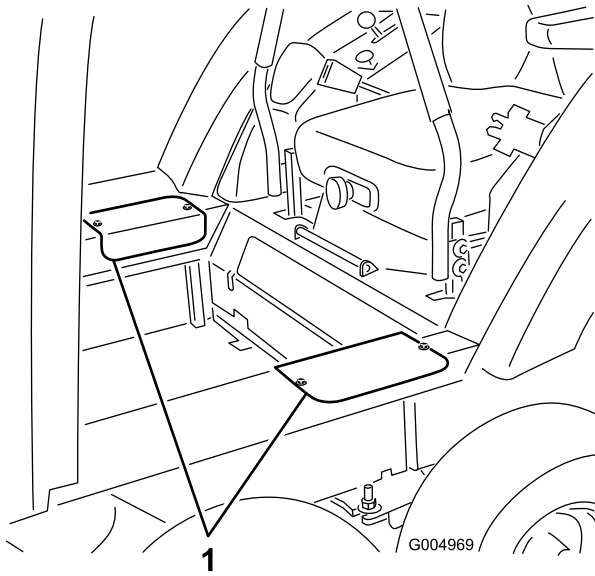

Figure 125
39. Install the side access covers with the screws previously removed (Figure 125).